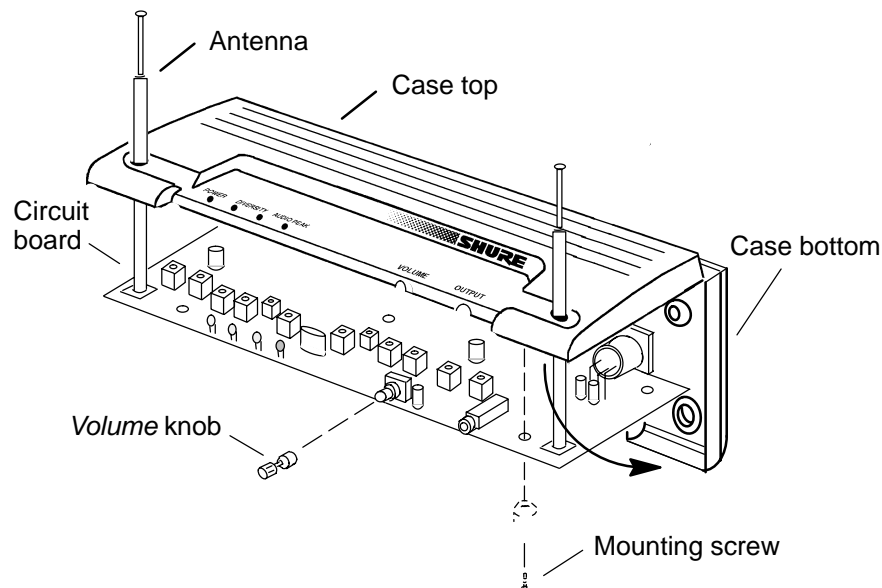

Figure 3.
3. Place the receiver in its normal operating position and rotate the antennas to their vertical positions. Note that an adhesive-backed nameplate at the rear of the unit holds the upper and bottom parts of the case together. To open the case, carefully separate the upper part from the bottom part at the front of the unit. Carefully swing the bottom part of the case away until the two halves are at a 90° angle, to allow removal of the circuit board and antennas (Figure 3).